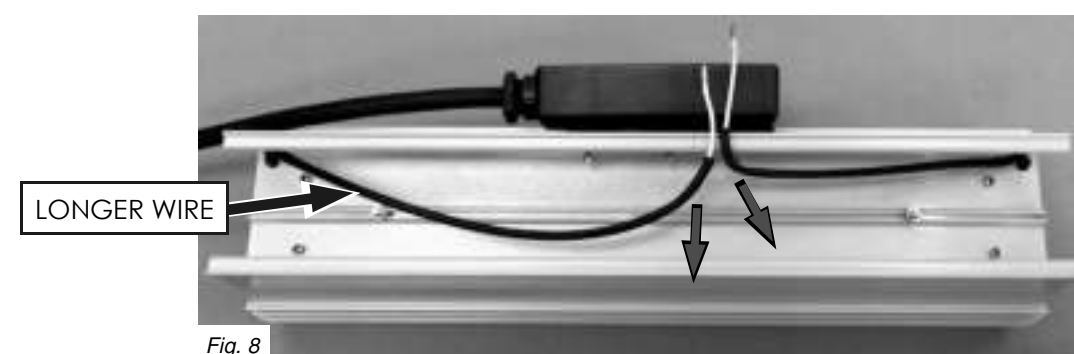

Fig. 8
8. From inside the heater body, gently pull the lamp wires through the sealing gasket so the lamp wires exit the terminal box and are free as shown below in Fig. 8.
9. Turn the heater body over and slide the side reflectors out at each end and then slide the guard out of the heater by pushing it towards one of the ends where the end caps are removed (Fig. 8). Note: the reflectors sit on top of the guard legs for refitting.